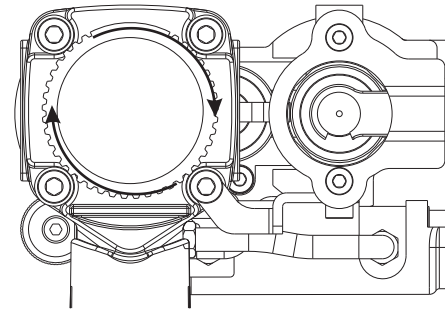

Figure 2
2. Insert a string of plastic caps into the Cap Magazine. (See figure 2)